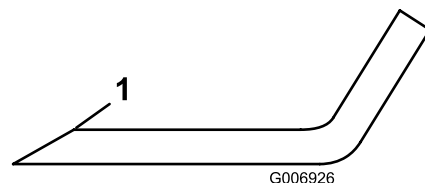

Figure 18
5. Inspect the cutting edges of all blades. Sharpen the cutting edges if they are dull or nicked. Sharpen only the top of the cutting edge and maintain the original cutting angle to make sure that it is sharp (Figure 18).
6. If dull or nicked, sharpen only the top cutting edge while maintaining the original cutting angle (Figure 18).